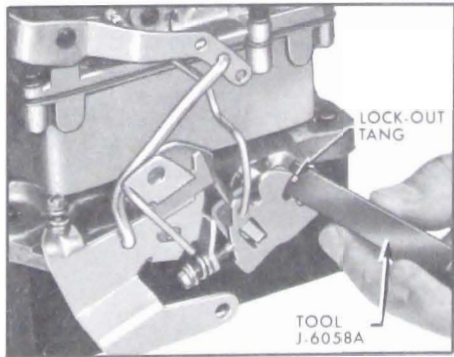

Figure 3-62—Adjusting Secondary Contour
8. If clearance between tang and contour is not correct, bend tang as required to obtain this clearance, using Tool J-6058A. See Figure 3-62.